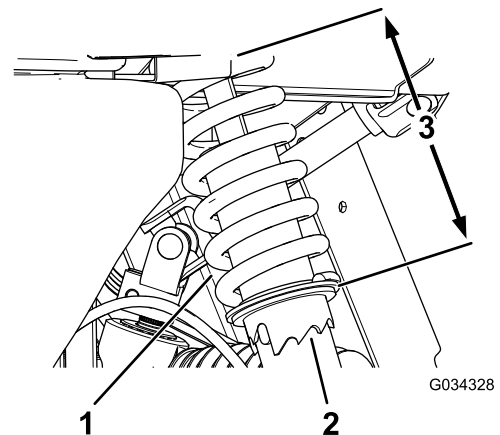

Figure 53
- Using Toro Tool No. 6010, rotate the collar on the shock absorber to change the length of the spring (Figure 53).